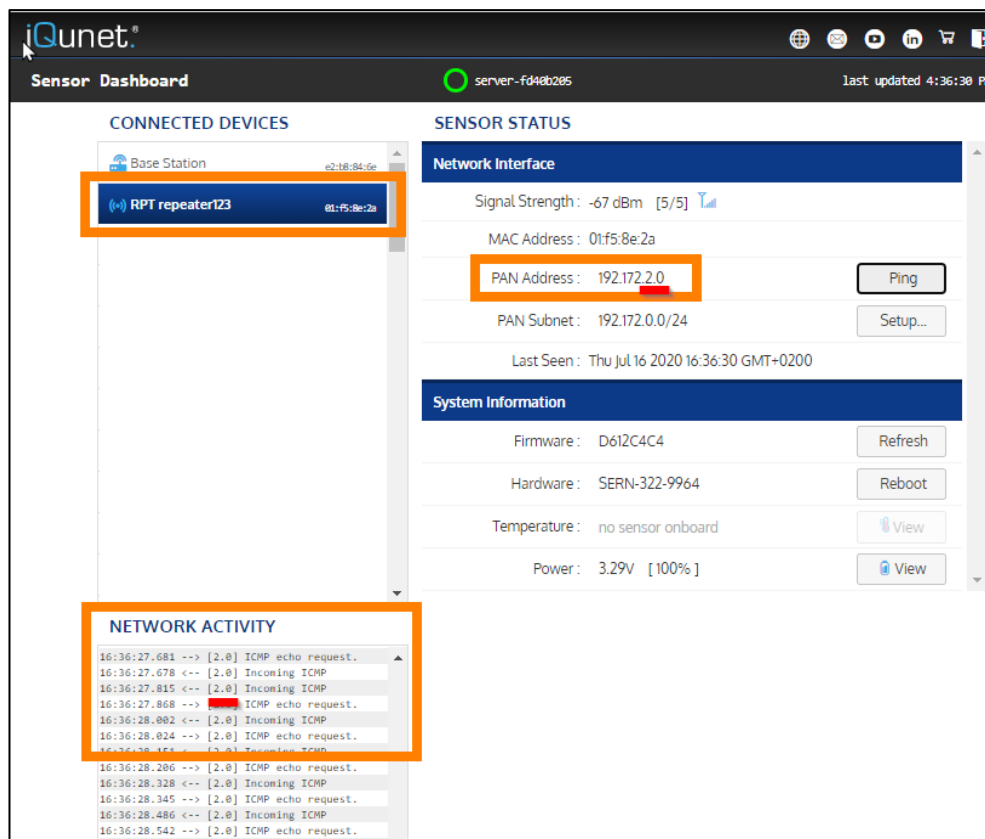

Figure 8: Configuring a Repeater device as Repeater
- e. The device will pop up with a new icon (Repeater icon). (see Fig. 8) Pan address will show xxx.xxx.2.0. The RPT will be active in the “Network Activity” pane as [2.0]. the RPT must respond immediate within a second to each ping. All sensors that will be under this repeater will receive a pan address like xxx.xxx.2.140 or higher number. (a sensor directly connected to the BS will receive xxx.xxx.1.140 or higher number)